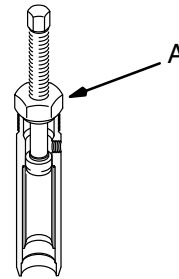

Fig. 19
5. Screw the sleeve removal tool's large nut (A) into the top of the cylinder. Screw down the rod to push the sleeve out. See Fig. 19. Remove the tool. Clean and inspect the parts.